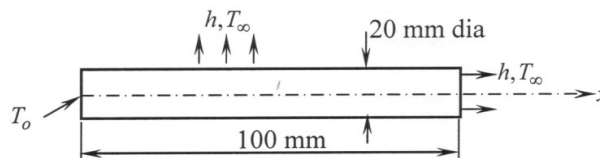

Fig. Q 10
10. Fig. Q 10 shows a uniform aluminium fin of diameter 20 mm. The root (left end) of the fin is mainatined at a temperature of $T_0 = 100^\circ\text{C}$ while convection takes place from the lateral (circular) surface and the right (flat) edge of the fin. Assuming $K = 200 \text{ W/m}^\circ\text{C}$, $h = 1000 \text{ W/m}^2\text{-}^\circ\text{C}$ and $T_\infty = 20^\circ\text{C}$. Determine the temperature distribution in the fin using a two-element idealization. 20